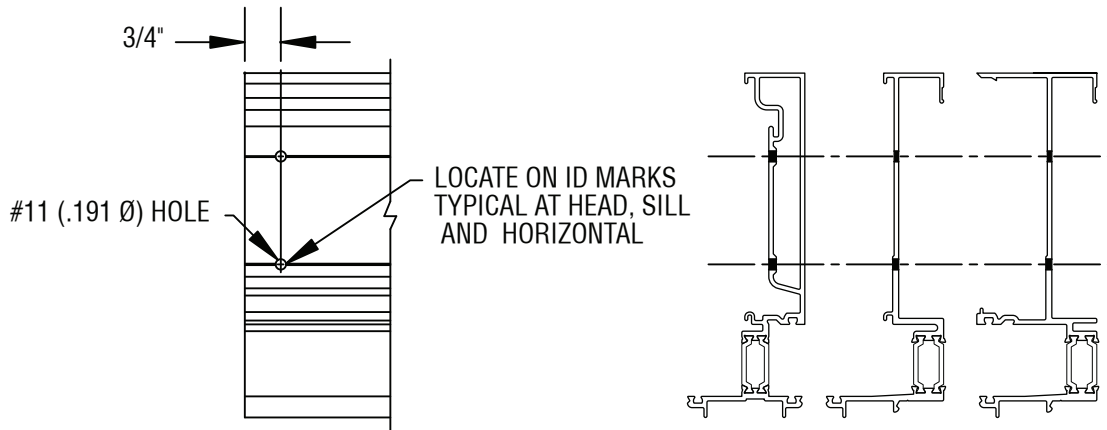
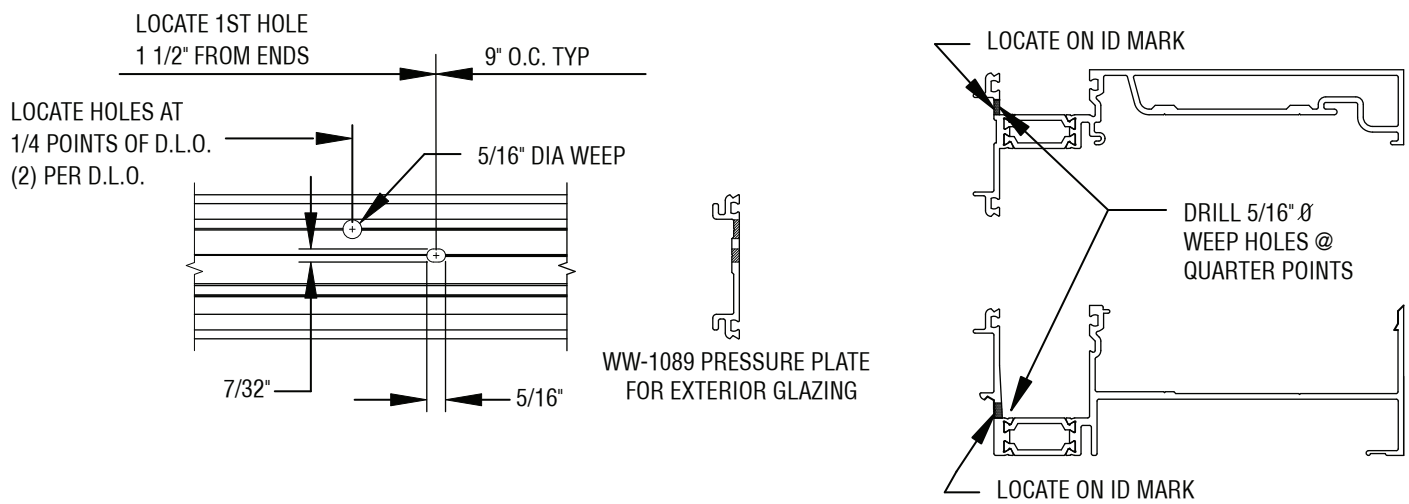

FIGURE 4
FIGURE 5
- 1.5 Drill (2) 7/32" holes on each end of horizontal for attachment to shear block. **SEE FIGURE 4, page 9**. Drill 5/16" weep holes at 1/4 points as shown in **FIGURE 5, page 9**.